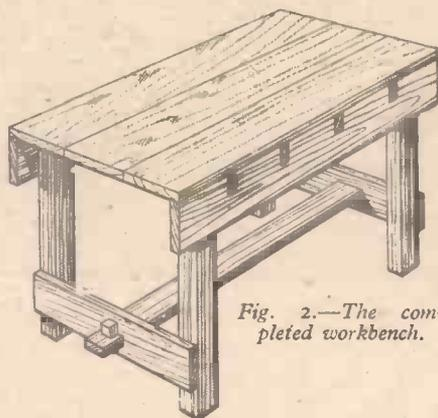

Fig. 2.—The completed workbench.
Proceed as follows:—First make the end supports, using 2 pieces (M) in Fig. 1, to which nail or screw at the top one piece (G) with ends cut as shown. Lower rail (D) is "slotted" to receive ends of (E) which again is tongued and slotted as shown to receive key pegs (F). Having completed both end supports, now prepare side supports (B), cutting four slots at equal distances to take ends of (G). Make sure that slots on both sides are true. Having cut all slots and prepared all parts for assembly, place ends of stretcher in respective slots, turn frame on its side and screw on side support (B). Turn frame over and place the remaining two top supports (G) in position and lay the other piece (B) in place. Now screw together. Finally bring to upright position and place boards (A) on frame. These should be planed smoothly, fit snugly and be screwed where necessary for strength. The completed bench is shown in Fig. 2.